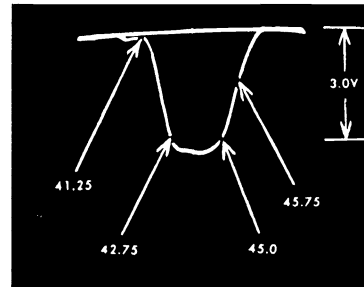

Fig. 8 Overall IF Response
5. Connect the sweep generator to terminal "A" (mixer grid, see Fig. 1, 2 or 3 depending on tuner). Connect terminal "F" to chassis and connect a jumper between terminal "E" and the junction of the 56 (68 in the 16F25 chassis) and 1500 ohm resistors in the cathode of the 1st IF. Adjust sweep to obtain a response similar to Fig. 8. Switch oscilloscope to 10X gain to "blow up" the traps.
7. Disconnect the jumper between "E" and the 56 and 1500 ohm cathode resistors. Connect this jumper between "E" and chassis. Adjust sweep generator for 3 volts peak to peak output. Alternately adjust the 2nd, 3rd, 1st IF and the converter plate coil until an overall response similar to Fig. 8 (Fig. 9 for the 16F25 chassis) is obtained. It will be found that the 2nd IF affects the low side (42.75 Mc) and the 3rd IF the high side of the response